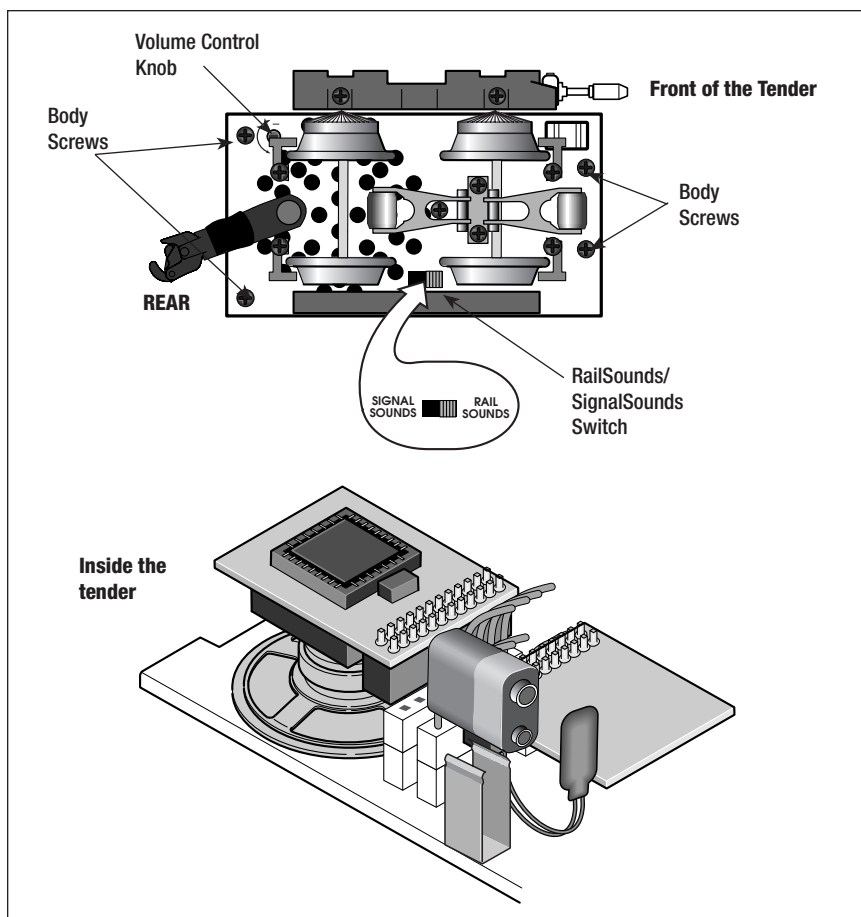

Figure 4. Underside of the tender, control locations, and battery installation
Begin by installing a nine-volt *alkaline* battery in the tender as illustrated in Figure 4 on page 9. This ensures interruption-free operation of the RailSounds sound system. The battery clip is located inside the tender. To access the battery clip, you must first remove the four body screws from the bottom of the tender and then lift off the body. Refer to Figure 4 on page 9 for the location of the body screws.
To silence the steam chuffing sound (whistle and bell are unaffected), slide the RailSounds switch, located on the underside of the tender (see Figure 4 on page 9 for the location), to the SIGNALSOUNDS position *before powering up the locomotive*. The whistle and bell are activated by using the lever or button on your transformer or CAB-1 Remote Controller. The volume control knob is located on the underside of the tender (see Figure 4 on page 9).
- Use the volume control knob, located on the underside of the tender, to adjust sound output. Refer to Figure 4 on page 9. Use a flat-blade screwdriver to adjust the volume level.